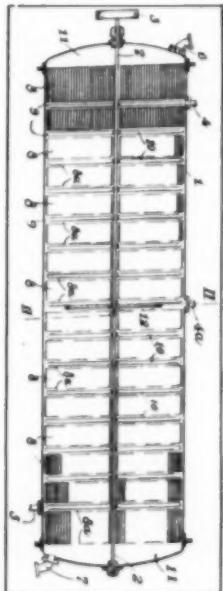
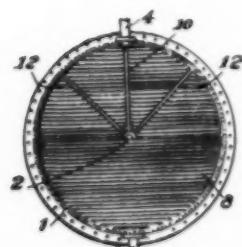

Fig. 9.
Fig. 10.
The nearly vertical mixer-settlers in Figures 9 and 11 have common shafts for the agitators, and the liquids flow in a countercurrent manner while settling as in the Scheibel column (2). The over-all flow is by gravity with the heavy liquid fed at the top at entrance (4), and the light liquid fed at the bottom at entrance (5). In Figure 9 the settling zone is formed of flat plates (8). The vertical position of operation is excluded in this design since it is desirable to have the fluids pass each other in layers or sheets rather than in drops. The settling plates are placed very close together to give more complete settling with some additional material transfer. Figure 10 shows a cross section at II-II.